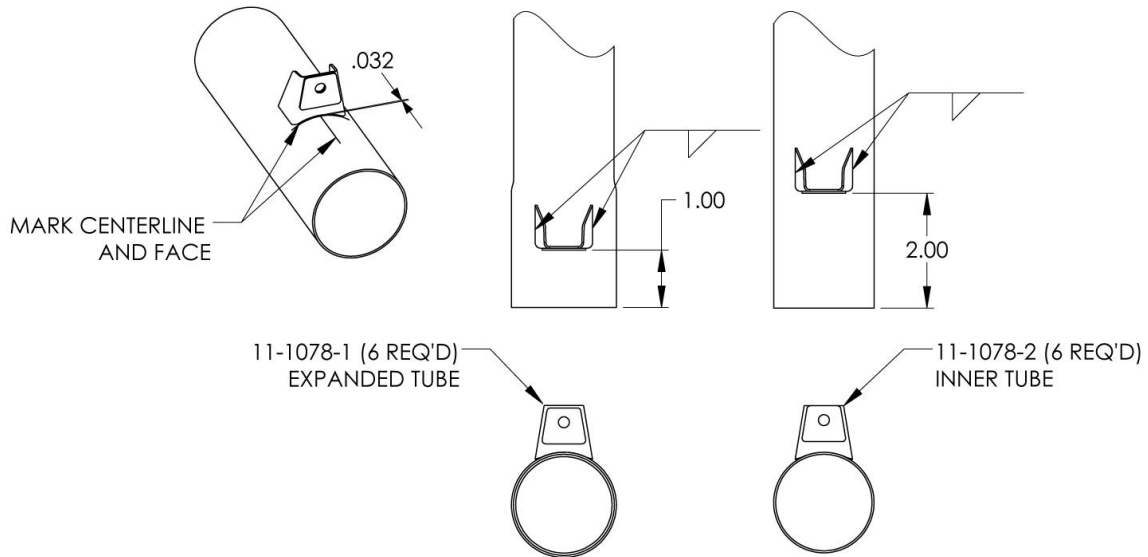

Figure 3, Bracket Installation
2. Replace 11-1078 bracket with 11-1078-1 or 11-1078-2 bracket as shown in figure 3. Mark centerline and face of bracket before removal. Remove excess weld with 36688 (Superior Abrasives) or equivalent sanding disk. Position replacement bracket such that the attachment face is in the same location as the original (the base will shift .032 inches). Weld flanges of bracket per specification CW-1S or equivalent process. Remove weld penetration from inner surface of expanded tube.